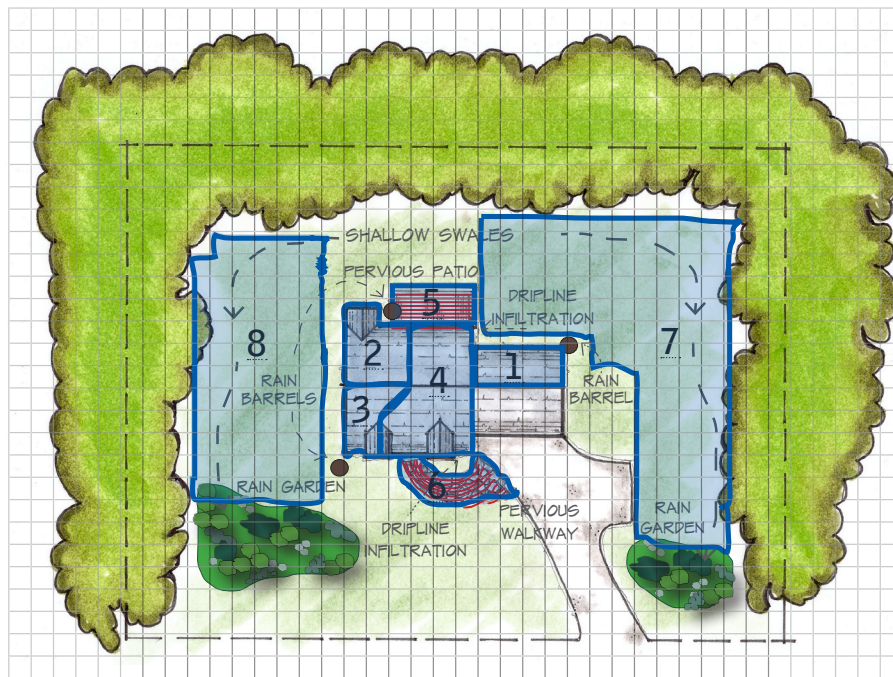

Figure 7. Estimate the drainage area within each boundary line.
- To estimate the size of the drainage area to each stormwater endpoint, you can use the measurements that you recorded on your Project Planning Worksheet to estimate the average area within each boundary line, or if you used the **Site Sketch Grid** in Appendix C, you can count the squares within each boundary line. The example property in figure 7 is a 1-acre lot. This makes each grid box approximately 50 ft². The estimated drainage areas to each stormwater treatment practice are summarized in Table 1 below.